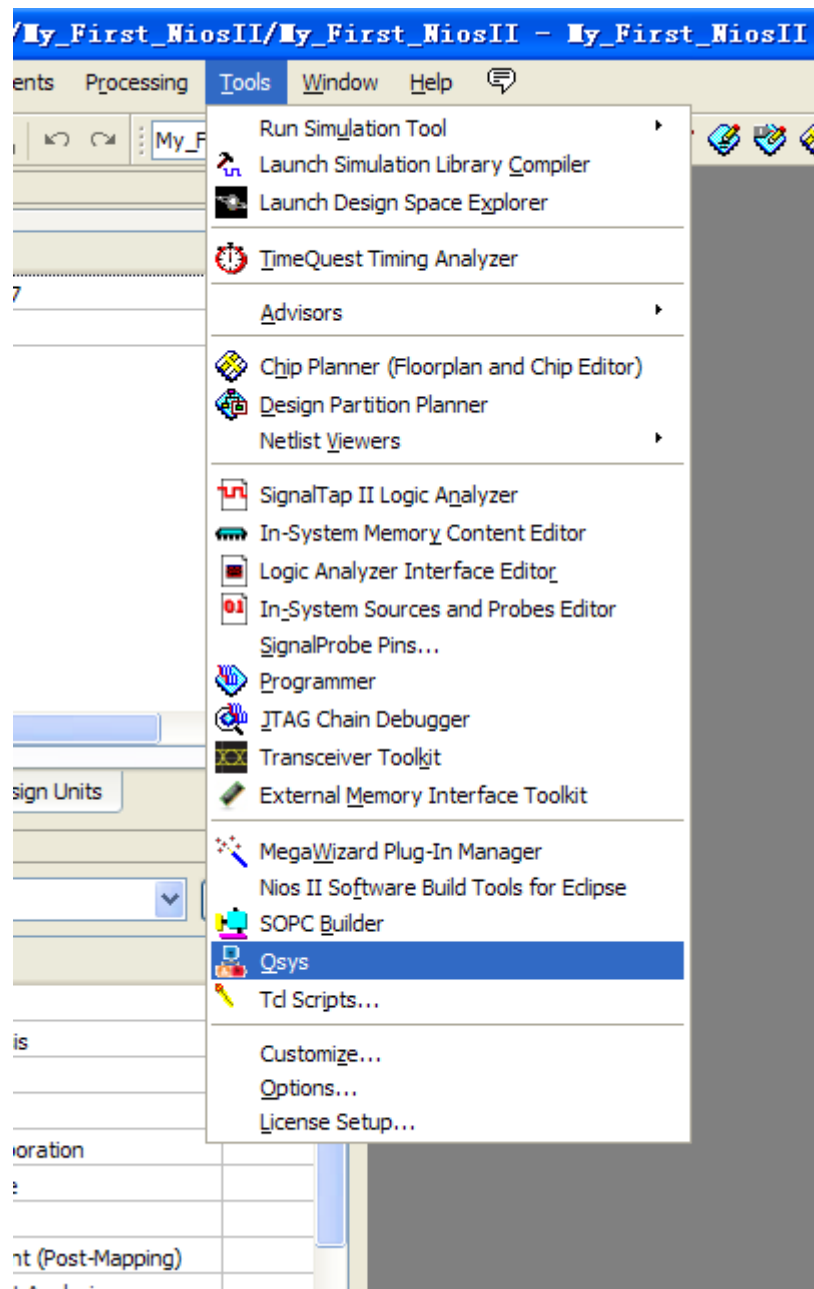

Figure 1-9 Qsys Menu
5. Choose **Tools > Qsys** to open new Qsys system wizard . See Figure 1-9 and Figure 1-10.